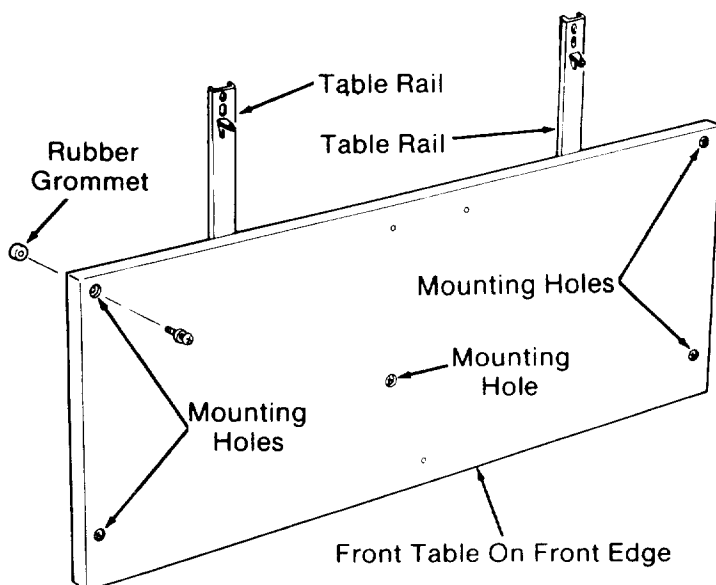

Fig. 59
6. Put a mounting screw through each of the mounting holes. Then put a *rubber grommet* on the bottom of each mounting screw. (Figure 59)